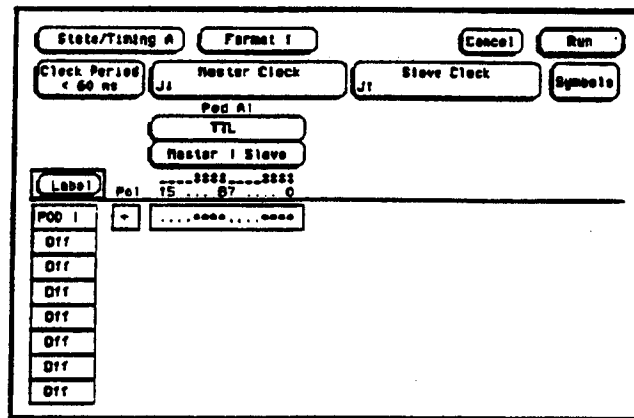

Figure 3-27. Format Screen
4. Set up Format screen as in figure 3-27, assigning a falling clock edge as master clock and rising edge of same clock as slave clock. Refer to steps a through c if unfamiliar with the menus.